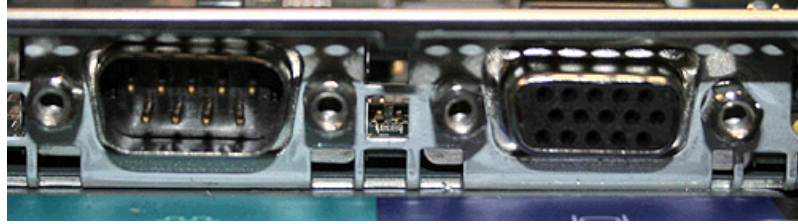

Figure 277. Serial and video ports on the SAN Volume Controller 2145-8G4
18. Remove the four stand-off screws from by the serial and video I/O ports at the rear of the node. Figure 277 on page 295 shows the location of the stand-off screws.